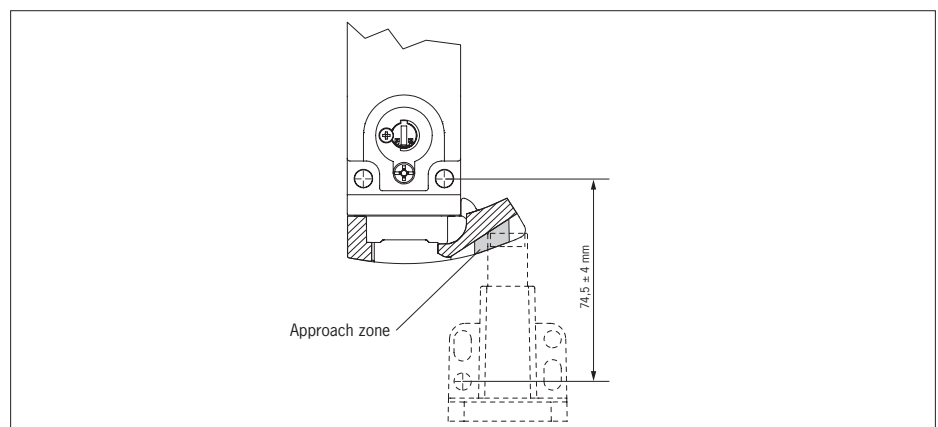

Fig. 9: Actuator approach zone
- ▶ Ensure that the actuator contacts the ramp in the designated area (see Fig. 9). Marks on the ramp specify the prescribed approach zone.